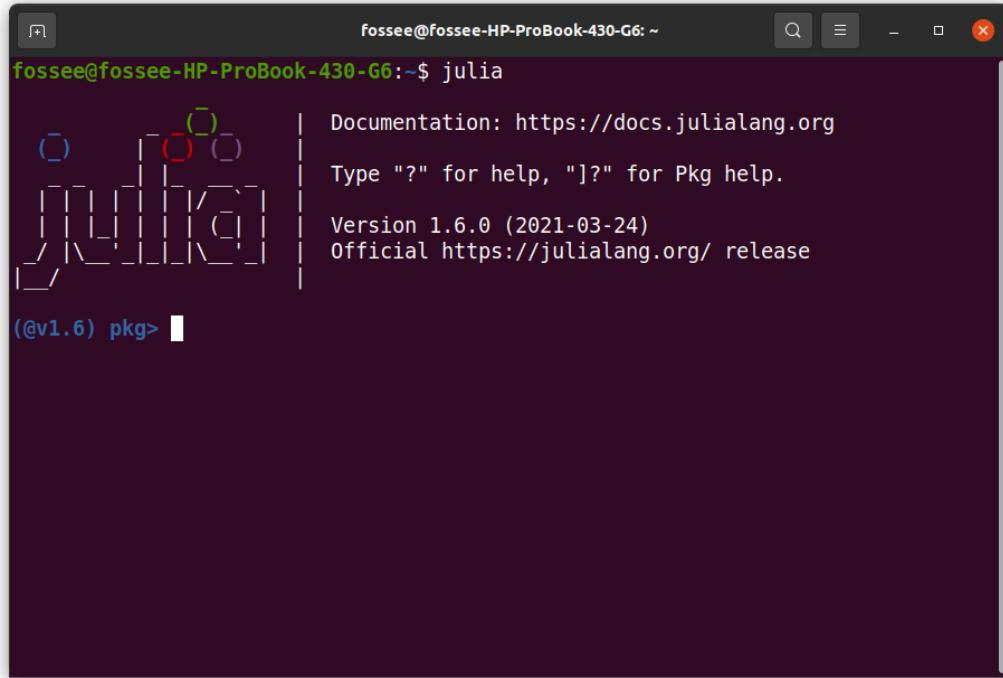

Figure 3.13: Linux terminal to enter Pkg REPL in Julia
2. From the Julia REPL, press ] to enter the Pkg REPL. The moment you press ], you enter Pkg REPL, as shown in Fig. 3.13.